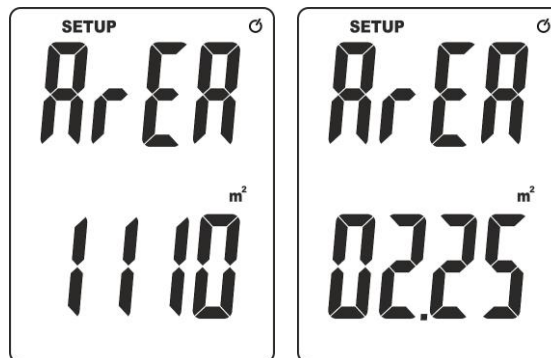

Fig. 4: Setting of the value of duct area
5. Press key **ENT** to confirm. The screen in Fig. 4 – left side is shown on the display
7. Press keys **▲UNIT** or **UNIT▼** to set the value of duct area in the range: **0.001 ÷ 9999** by proceeding from right to left and pressing key **ENT** to confirm each digit (see Fig. 4 – right side) relevant, for example, to a square duct with a side of 1.5m x1.5m)